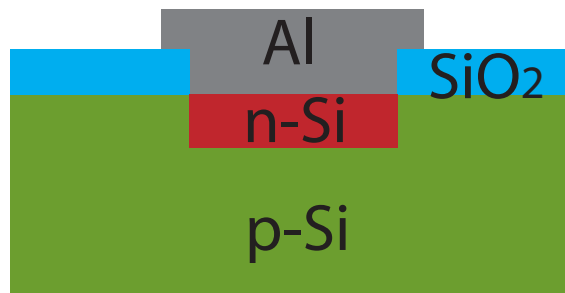

Figure 2: Finished structure
- The structure should look as in Fig.2. Time for testing of whole wafer in the probe-station.